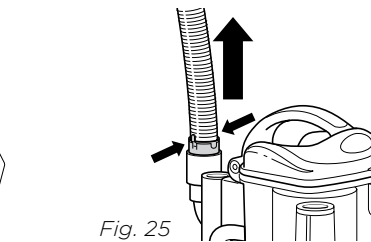

Fig. 25
- Detach the stretch hose from the back of the portable Lift-Away® canister by squeezing the tabs together and pulling up. **(Fig. 25)** Straighten out the hose and look inside for blockages.